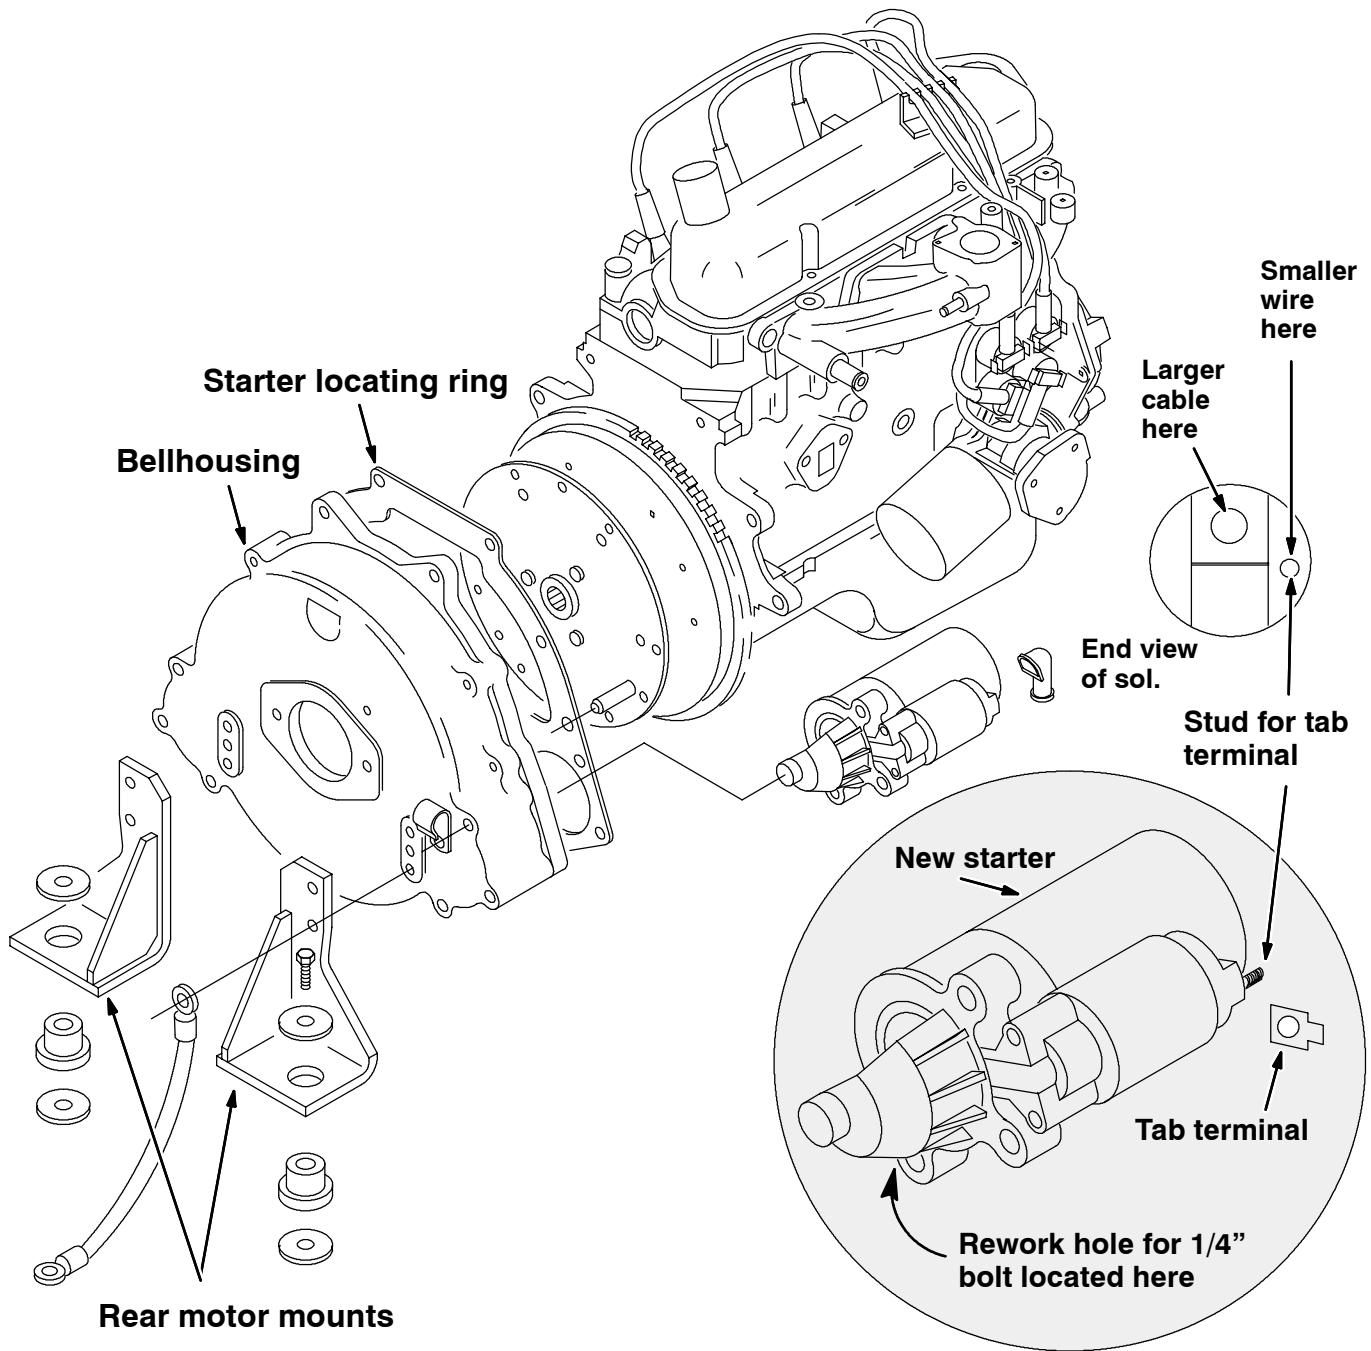

FIG. 1 - Starter And Bellhousing
(Refer to FIG. 1)
3. Disconnect the larger cable and smaller wire leading to the starter solenoid. (Refer to FIG. 1)
4. Remove and retain the hardware holding the old starter to the bellhousing. Remove the starter from the machine. Retain the top two M10 bolts. Replace 120mm long M10 bolt with M8 120mm bolt 49883. Tighten the top two bolts. Confirm that the 120mm long bottom bolt fits before tightening. If the bottom bolt doesn't align, remove the starter, and drill out the bottom hole for more clearance. (Refer to FIG. 1)
5. Install the tab terminal (6) on the new starter using the M6 nyloc nut (8) and the #10 flat washer (7) on the smaller stud on the starter solenoid. Firmly hand tighten. (Refer to FIG. 1)
7. Position the new starter in the bellhousing. Line up the smaller hole (reworked) in the new starter with the bottom hole in the bellhousing. Install the 1/4 in. x 4-1/2 in. hex screw (2), 1/4 in. flat washer (3), and 1/4 in. nyloc nut (4). Do not tighten at this time. (Refer to FIG. 1)
8. Install the two other hex screws that were removed in step 4 in the remaining holes in the new starter. (Refer to FIG. 1)
11. Reconnect the battery cables to the battery. Start the machine. (Refer to FIG. 1)
4. Remove and retain the hardware holding the old starter to the bellhousing. Remove the starter from the machine. (Refer to FIG. 1)
7. Pull the propel and accessory pumps back out of the old bellhousing. Do not disconnect any of the hydraulic hoses. (Refer to FIG. 1)
9. Remove the rear motor mounts from the old bellhousing. (Refer to FIG. 1)
10. Remove and retain the hardware attaching the bellhousing to the rear of the engine block. (Refer to FIG. 1)
11. Remove and discard the old bellhousing and starter locating ring. (Refer to FIG. 1)
12. Position the new starter locating ring (2) and new bellhousing (1) on the back of the engine block. Reinstall and tighten the hardware. (Refer to FIG. 1)
13. Reinstall the rear motor mounts on the new bellhousing. (Refer to FIG. 1)
16. Position the new starter in the bellhousing. Line up the smaller hole (reworked) in the new starter with the bottom hole in the bellhousing. Install the 1/4 in. x 4-1/2 in. hex screw (2), 1/4 in. flat washer (3), and 1/4 in. nyloc nut (4). Don not tighten at this time. (Refer to FIG. 1)
17. Install the two other hex screws that were removed in step 4 in the remaining holes in the new starter. (Refer to FIG. 1)
20. Reconnect the battery cables to the battery. Start the machine. (Refer to FIG. 1)